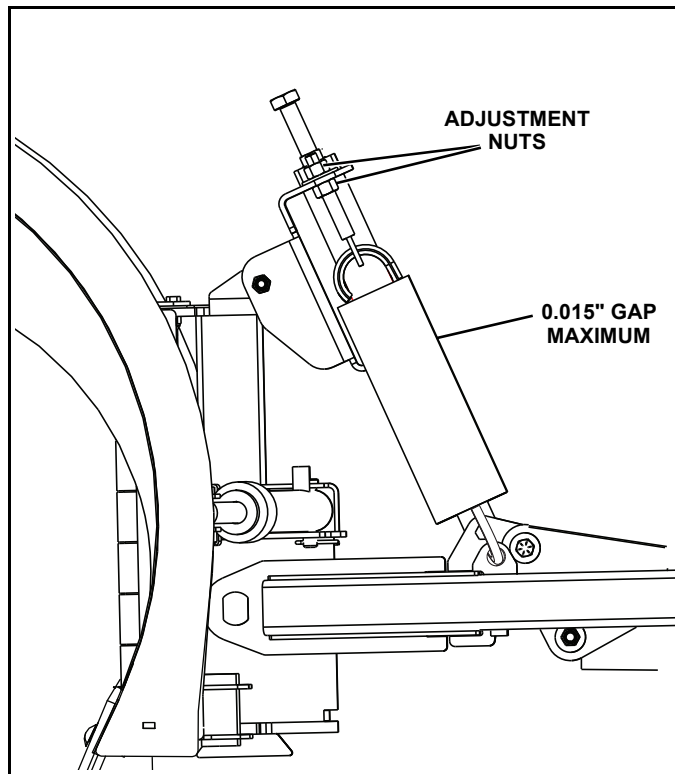

Figure 2-8
2. Check gap on springs with a feeler gauge. The gap between two or more coils should be .015" (A 3x5 postcard is approximately .015" thick). (See Figure 2-8.)